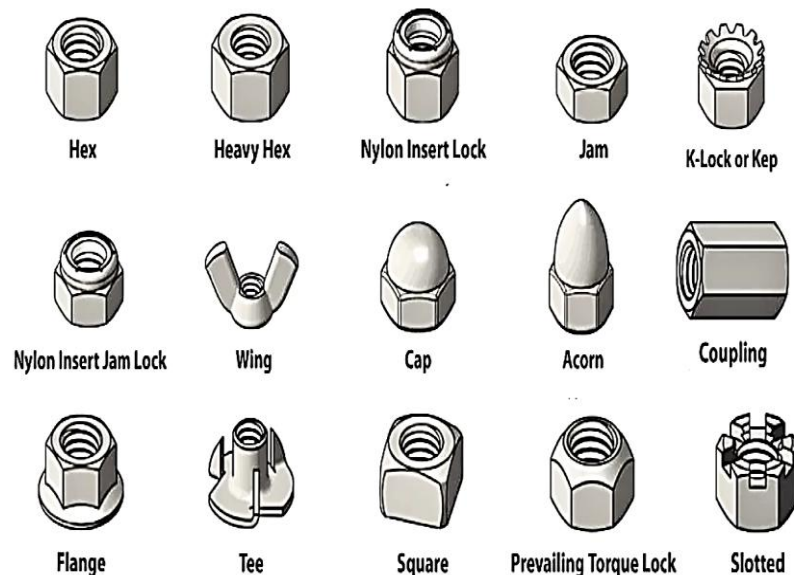

Fig. 2.36: Types of Nuts
- A nut is a fastening component with either a hexagonal or square shape that screws onto the threaded end of a bolt or stud to join two parts securely (Fig. 2.36).